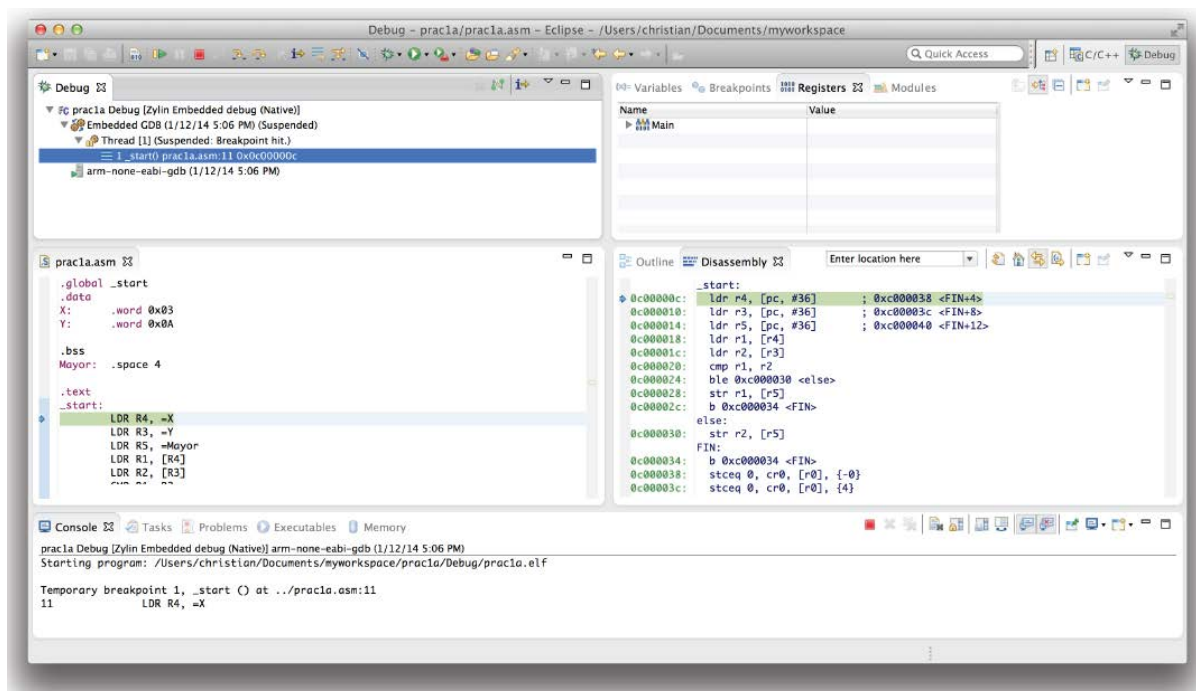

Figure 1.17 Initial look of the debugging window.
3. We are now ready to debug. To start with, click the Debug button. This will save the debug configuration with the name that was selected in the first tab, and will start a debugging session with this configuration. If you later want to debug again the same project, it will not be necessary to create a debug configuration; you can simply select the one you have just created. Figure 1.17 shows the initial state that the debug window should have, if we have followed all the steps: